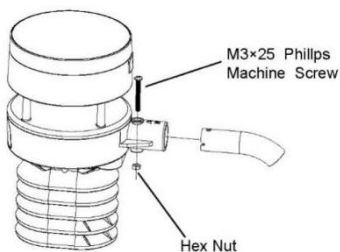

Figure 5: Sensor package mounting diagram 6-3
3. Attaching the arm tube to the Ultrasonic Sensor as Figure 5.